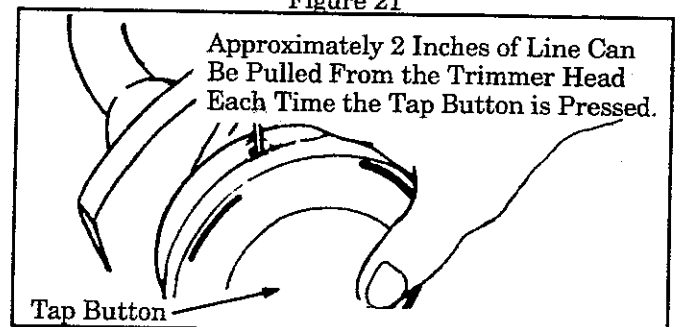

Figure 22
- Obtain the correct line length (4-6 inches) by pressing the tap button (Figure 22) and pulling on the line again.
NOTE: Each time the tap button is pressed, approximately 2 inches of line can be pulled from the trimmer head. Figure 22.